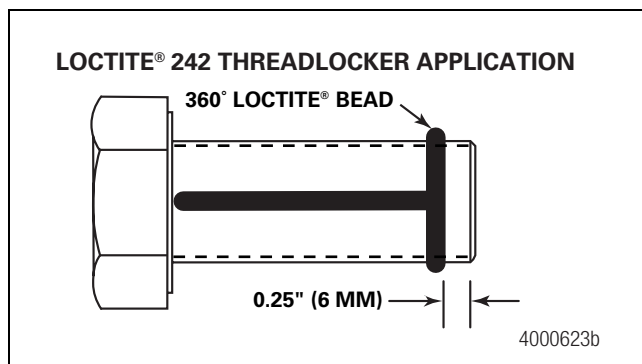

Figure 4.13
- Apply a 0.125-inch (3 mm) bead of Loctite® 242 threadlocker around the capscrew threads approximately 0.25-inch (6 mm) from the end. Apply a 0.125-inch (3 mm) bead of Loctite® 242 threadlocker across the length of the threads. Figure 4.13.